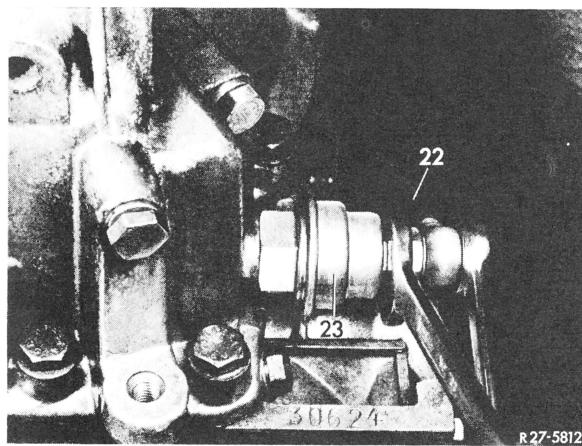

Fig. 3
- 22 Connect vacuum line (22) to vacuum box (23), **while counterholding on hexagon (SW 14) on vacuum box** (Fig. 3).